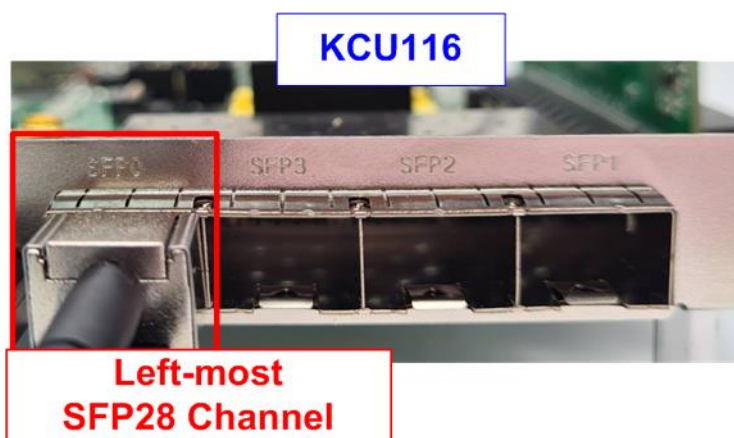

Figure 2-2 Connect SFP28 channel using on KCU116 board
- 3) Connect 25Gb Ethernet cable by inserting 25G SFP28 AOC cable between FPGA board (on the left-most channel) and 25Gb Ethernet card on Test PC, as shown in Figure 2-2.